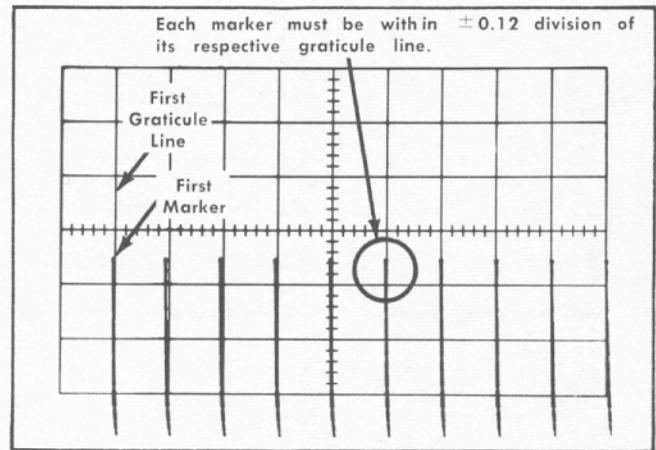

Fig. 6-47. Typical crt display when checking magnified linearity.
c. Check—Linearity of crt display between the first and ninth graticule lines is within tolerance of $\pm 1.5\%$ (± 0.12 division); see Fig. 6-47.
42. Adjust Magnifier Register ❶